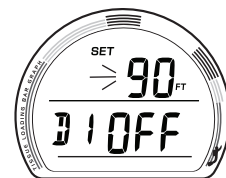

Fig. 111 - SET DEPTH ALARM
**SET DEPTH ALARM 1 (2, 3)**, information is to include (Fig. 111):